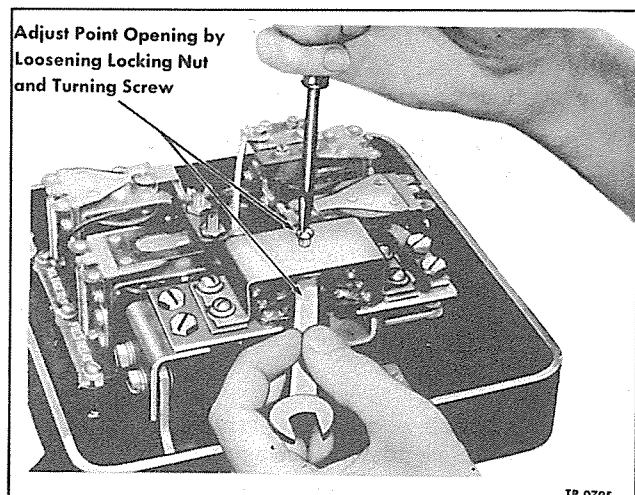

Figure 7—Cut-out Solenoid Point Opening Adjustment
2. If point opening requires adjustment, loosen adjusting screw lock nut and turn adjusting screw in or out as necessary until proper point opening is obtained (fig. 7). Tighten lock nut when adjustment has been completed.